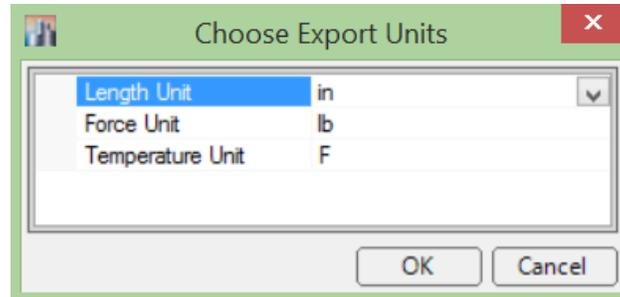

Figure 4 Export Unit Options in ETABS
- In the *Choose Export Units* dialogue box, select the units for *Length*, *Force* and *Temperature* data to be exported from ETABS. For this example, use the default values per US unit selection for the main model as shown in FIGURE 4.